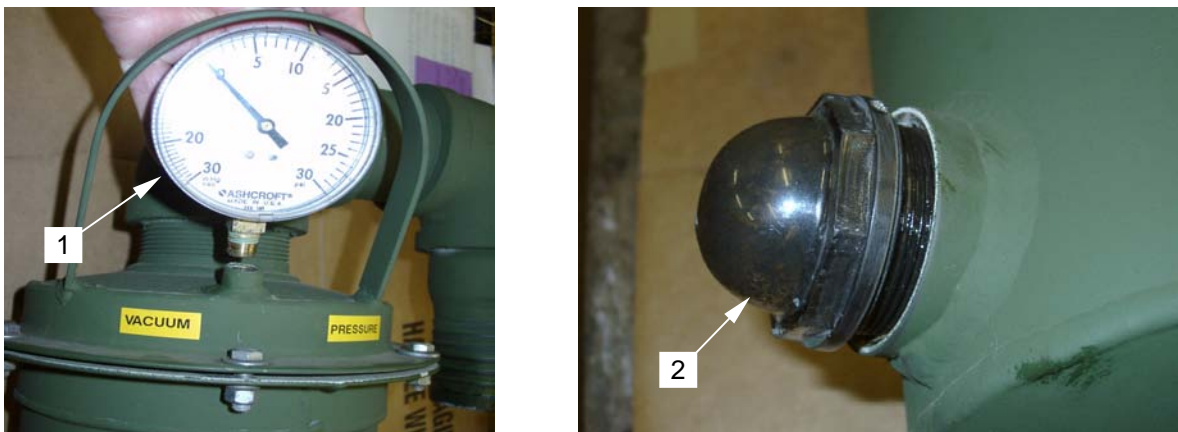

Figure 3. Removing Pressure Gage and Sight Glass
5. Remove (unscrew) the vacuum/pressure gage (figure 3, item 1) from the moisture trap lid.
6. Unscrew the sight glass (figure 3, item 2) from the moisture trap if desired. (New replacement moisture trap is being furnished with sight glass installed.)